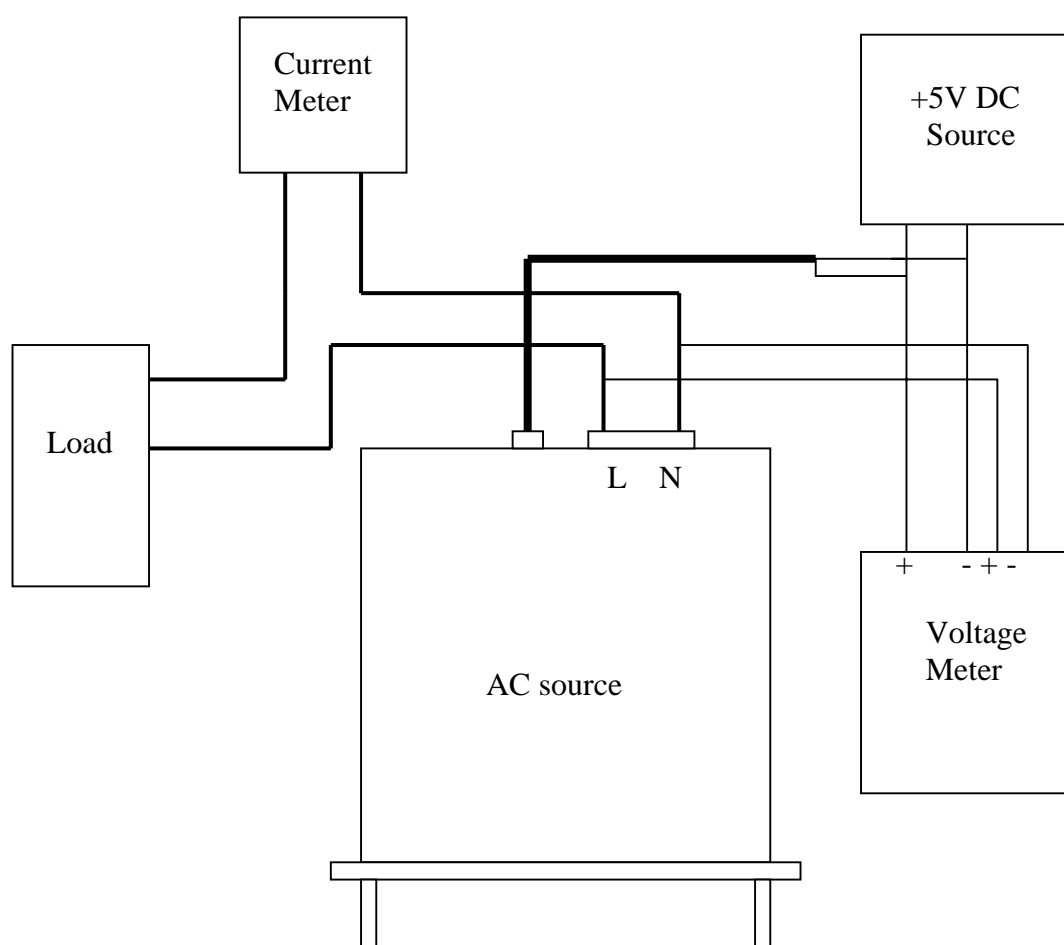

Figure 4.1.1
The ac source built a simple way to calibrate the output and measurement accuracy without opening cover. Users can do it just follow the procedures step by step. A voltage meter, current meter, suitable load and +5V dc source are needed for while calibration procedure. Connections for these instruments please refer to Figure 4.1.1. There are three items need to calibrate. But it is not necessary to calibrate all at once. User can just choose one item if needs.
1.The Vdc offset may be positive or negative. The positive of DVM connect to the line of AC source output, and the negative of DVM connect to the Neutral of AC source output. See Fig. 4.1.1.